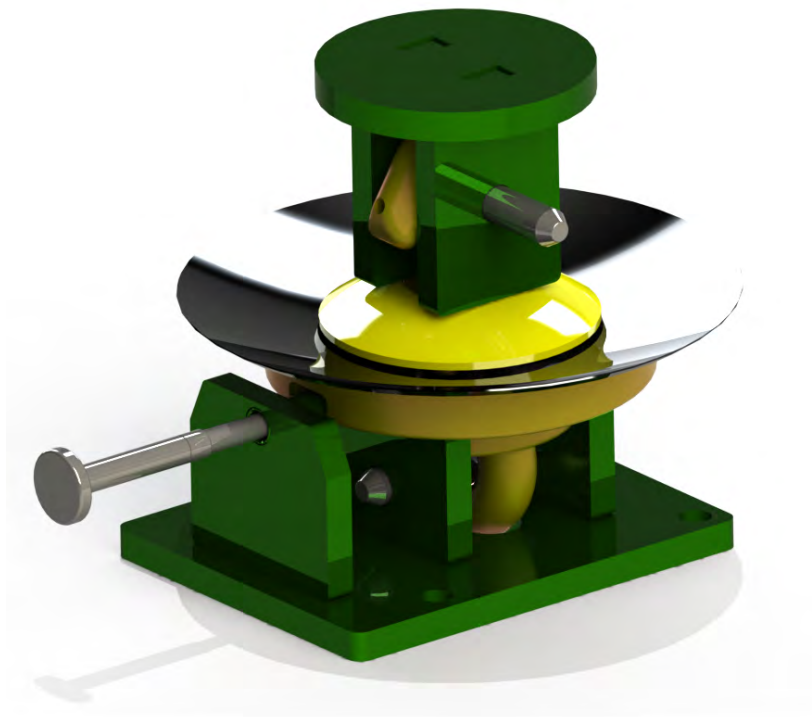

Figure 3: CL2 disc with press jig in Closed position
3. Close press, applying force to Saddle (see Figure 3). DO NOT exceed pressure of 9 Tonne (19,800lb)